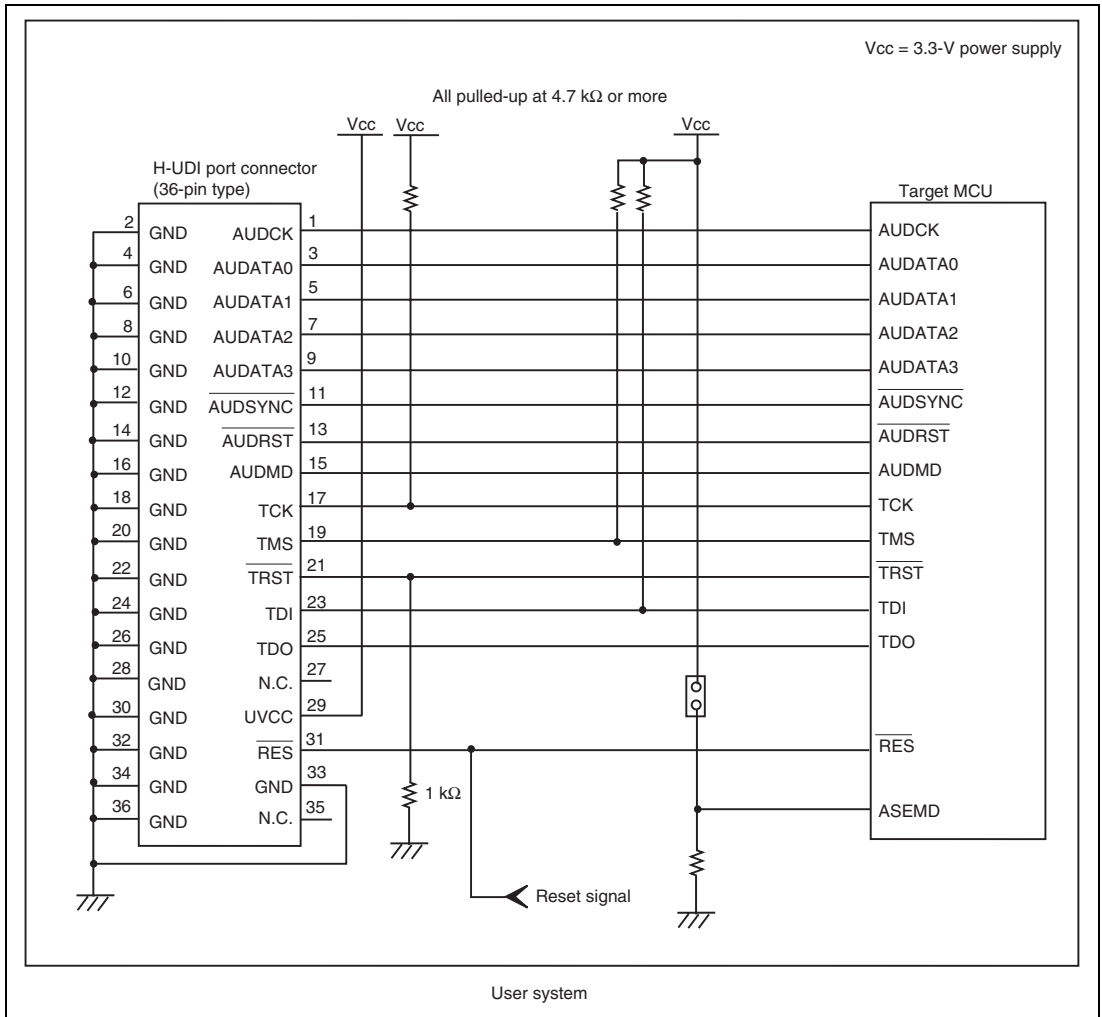

Figure 1.5 Recommended Circuit for Connection between the H-UDI Port Connector and MCU when the Emulator is in Use (36-Pin Type)
Figure 1.5 shows a recommended circuit for connection between the H-UDI and AUD port connectors (36 pins) and the MCU when the emulator is in use.
- (1) When the emulator is used: ASEMD = 1
- (2) When the emulator is not used: ASEMD = 0Figure 1.5 shows an example of circuits that allow the ASEMD pin to be changed by switches, etc.
7. The resistance value shown in figure 1.5 is for reference.
When the circuit is connected as shown in figure 1.5, the switches of the emulator are set as SW2 = 1 and SW3 = 1. For details, refer to section 3.8, Setting the DIP Switches, in the SuperH™ Family E10A-USB Emulator User's Manual.